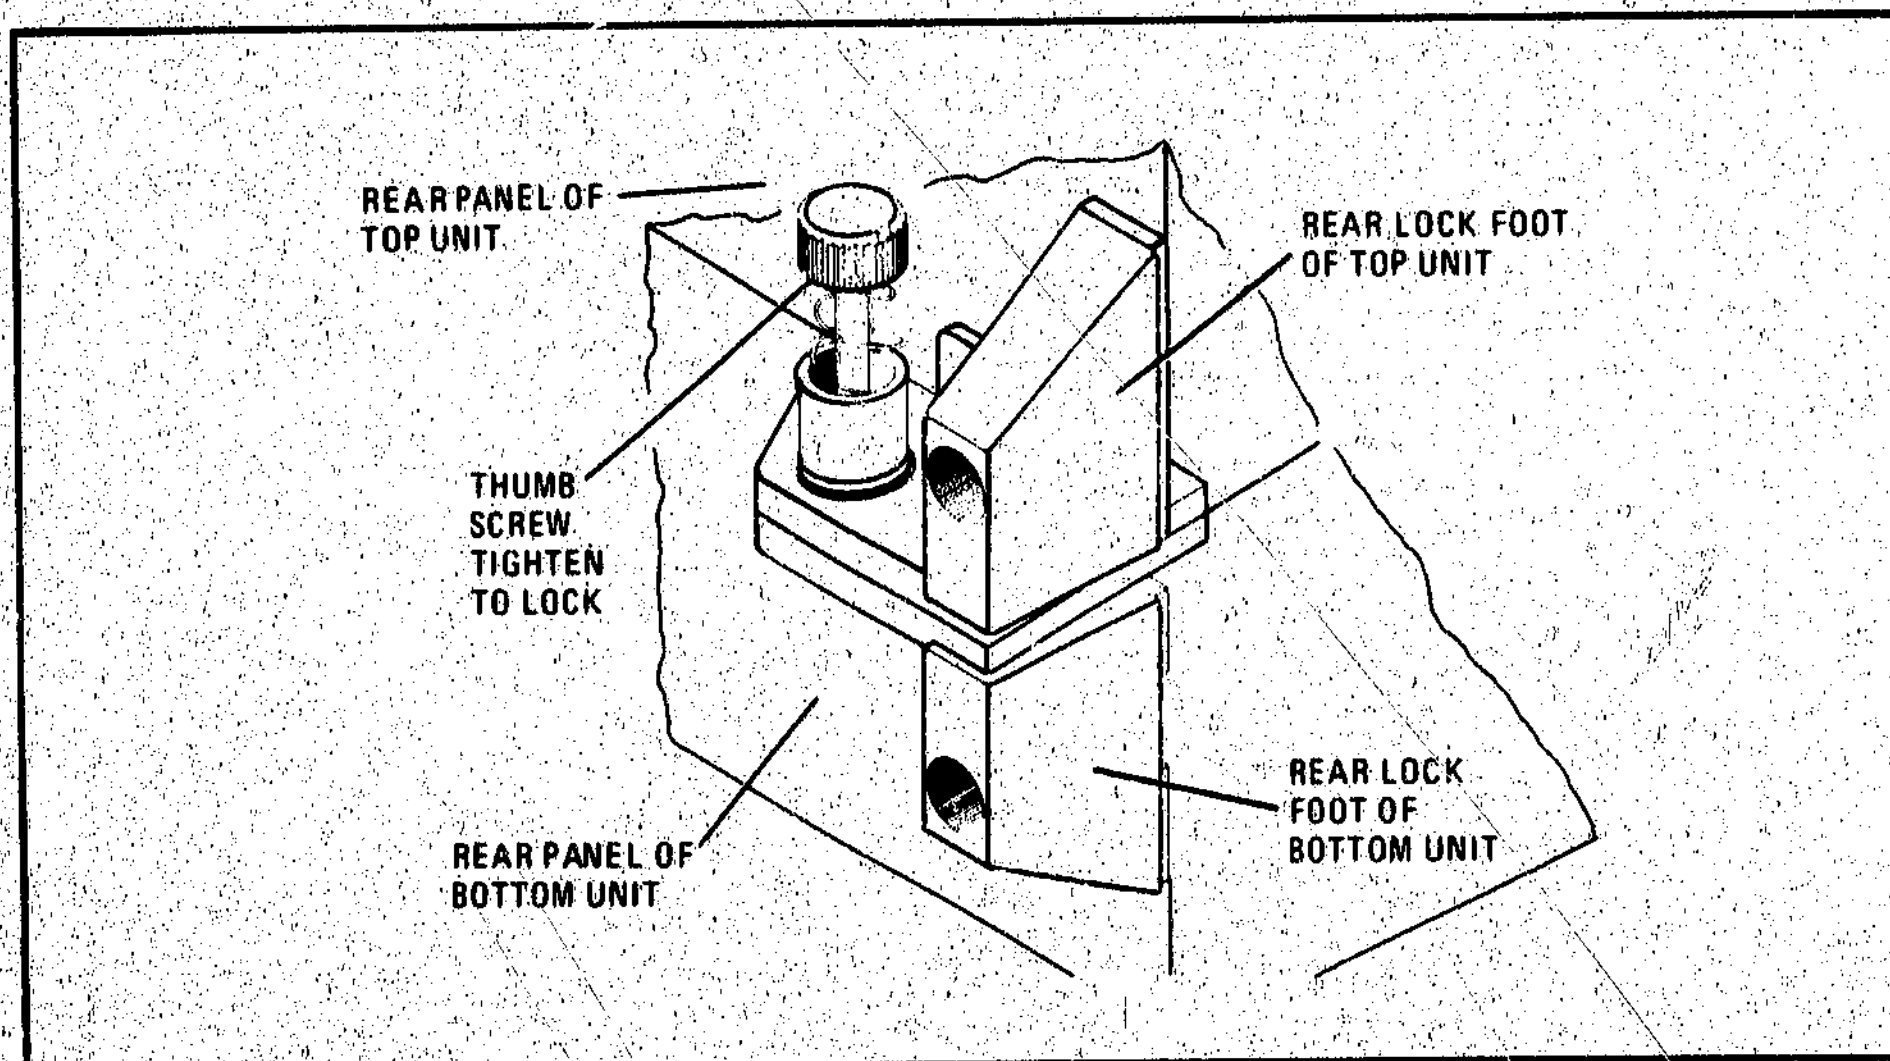

Figure 2-1. Lock Feet
- c. Remove the two bottom rear feet from the 8754A and install with two lock feet which contain thumb screws (Part of HP Part No. 5061-0099). There is a left one and a right one. See Figure 2-1 for proper placement.
- e. Remove the two top rear feet from the 8748A and replace with lower left rear lock foot and lower right rear lock foot (Part of HP Part No. 5061-0099). See Figure 2-1 for proper placement.